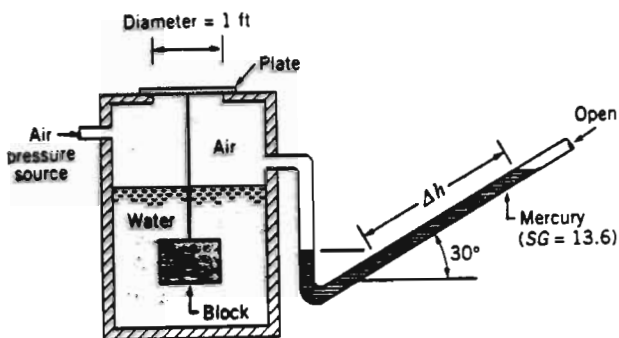

FIGURE P2.95
2.95 A plate of negligible weight closes a 1-ft diameter hole in a tank containing air and water as shown in Fig. P2.95. A block of concrete (specific weight = 150 lb/ft3), having a volume of 1.5 ft3, is suspended from the plate and is completely immersed in the water. As the air pressure is increased the differential reading,  $\Delta h$ , on the inclined-tube mercury manometer increases. Determine  $\Delta h$  just before the plate starts to lift off the hole. The weight of the air has a negligible effect on the manometer reading.